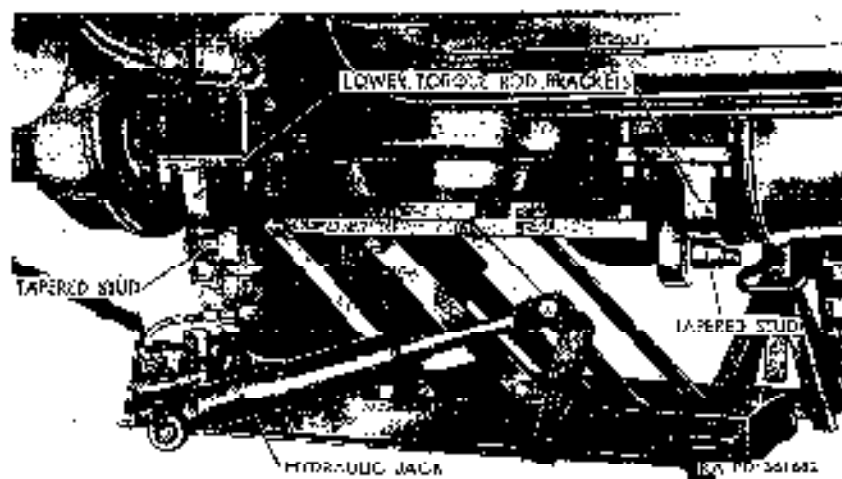

Figure 236. Lower torque rods disconnected.
- (1) *Service brake system*. The service brake system is an air-assisted hydraulic system consisting of the brake pedal linkage, master cylinder, air hydraulic cylinder, wheel cylinders, connecting lines and hoses for hydraulic fluid, and brake shoes.
- (a) *Brake pedal linkage* (figs. 236 and 237). The brake pedal linkage is comprised of a pedal secured to a lever, which is pivoted on a bracket bolted to the frame left side rail. The lower end of the pedal lever is pinned to a yoke on the front end of the master-cylinder piston rod. The upper end of the pedal lever is secured to the brake pedal (A.A. fig. 6b), which extends through the floor board into the cab.
- (b) *Master cylinder*. The master cylinder (fig. 236), bolted to the rear of the pedal lever bracket, consists of a hydraulic fluid reservoir, hydraulic cylinder with spring-loaded piston, and a check valve mechanism. Movement of the brake pedal linkage causes the piston inside the master cylinder to force fluid from the cylinder outlet through a connecting line into the air-hydraulic cylinder ((c) below).